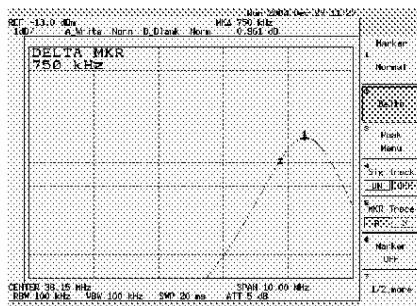

Fig. 1
- ☐ Calibrate C20 and L7 to tune the cell of I.C.P.M. to the frequency of the video carrier summing about 750kHz (Fig.1) with JP4 on and JP3 and JP5 off.